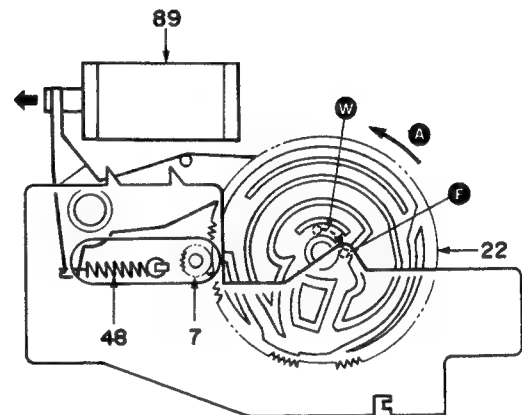

Fig. 17
4-4) The FD GEAR meshes with the GEAR (7) of the FLYWHEEL, and starts to rotate. The pin (F) of the SLIDER (11) passes through the orbit (W) and stops at position of Fig. 17.